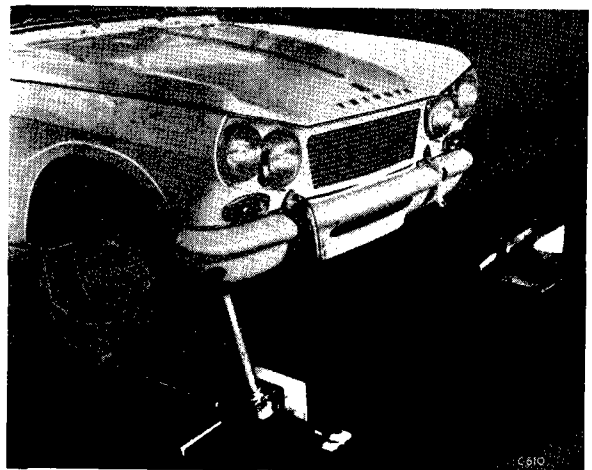

Fig. 2. Using Dunlop optical wheel alignment gauge
C. Track Adjustment (Figs. 2, 3 and 4)